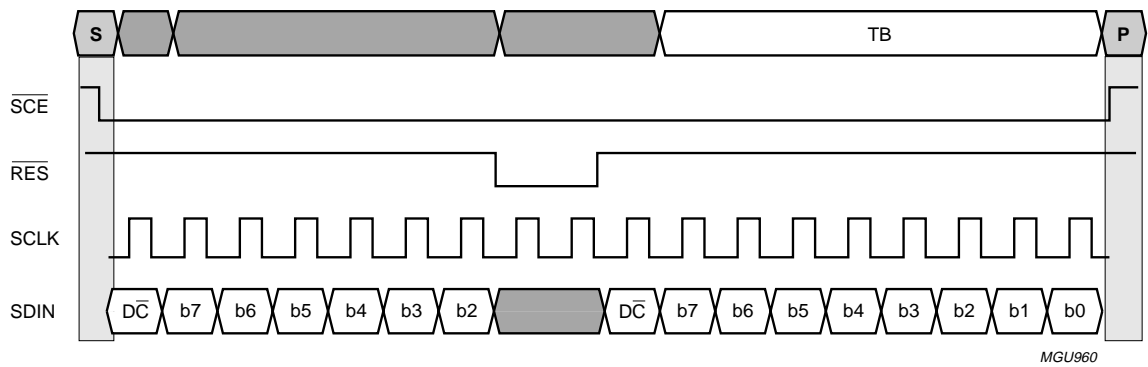

Fig.44 Serial bus protocol, Write mode, interrupted by reset (\overline{RES}); (PS[2:0] = XX0).
- A reset pulse at pin \overline{RES} interrupts the transmission. The data being written into the RAM may be corrupted. The registers are cleared. If \overline{SCE} is LOW after the rising edge of \overline{RES} , the serial interface is ready to receive the D/\overline{C} bit of a data/command byte; see Figs 44 and 50.